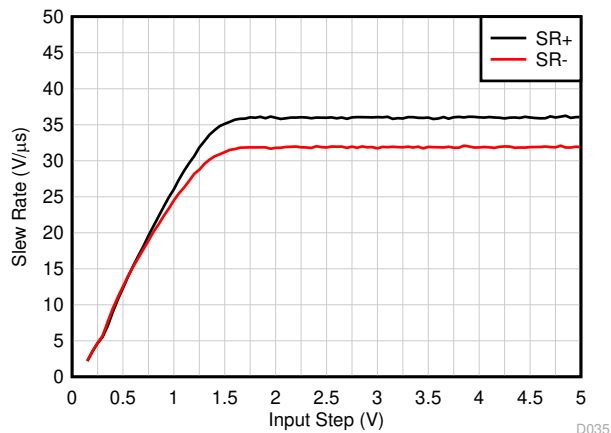

Figure 6-11. Slew Rate vs Input Step Voltage
- (3) See Figure 6-11 for more information.